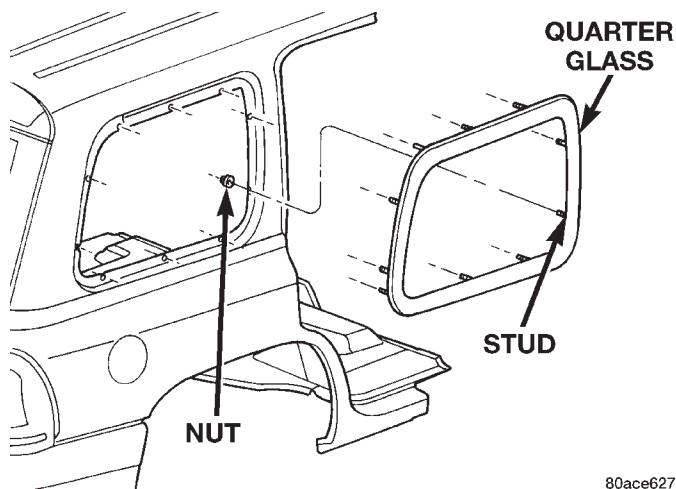

Fig. 7 Quarter Window Glass
- (1) Remove quarter panel trim.
- (2) Carefully pull down headliner to access upper nuts attaching quarter window glass to pinchweld and remove nuts.
- (3) Remove nuts attaching quarter window glass to pinchweld (Fig. 7).
- (4) Using razor knife, cut butyl sealer between the mounting studs attaching glass to pinchweld.
- (5) Push glass from opening.